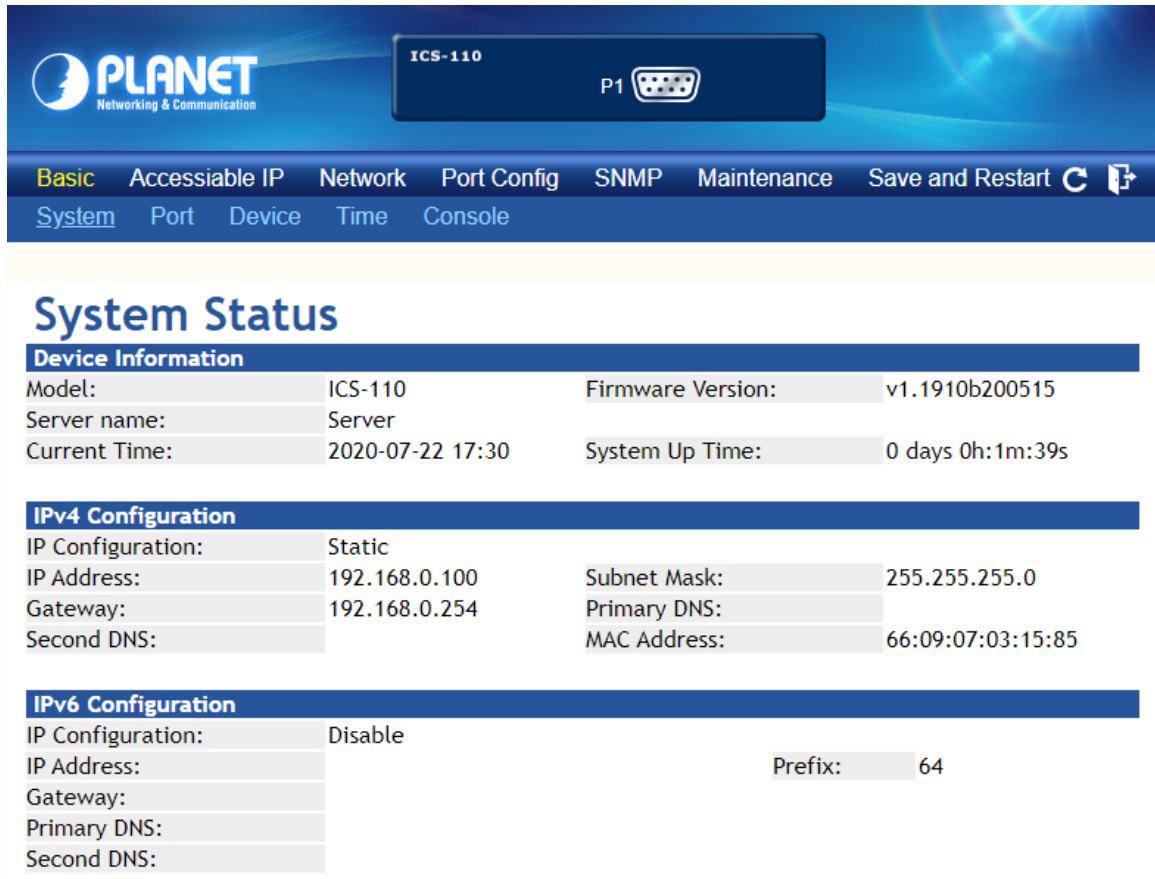

Figure 3-2-3: Web Main Screen of Serial Server
4. After entering the password, the main screen appears as shown in Figure 3-2-3.